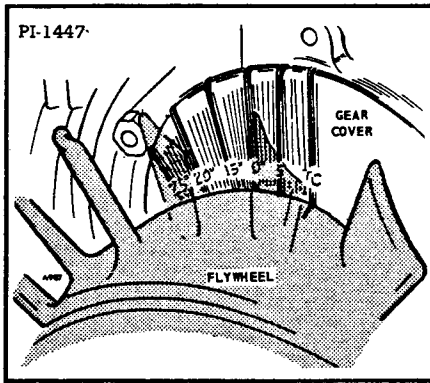

Fig. 273 Ignition Timing Marks
1. Remove the cover from the breaker box. If the timing is very far off, attain an approximate setting by loosening the mounting screws and shifting the breaker box to align the witness marks on the cylinder block and breaker box (Figure 273).